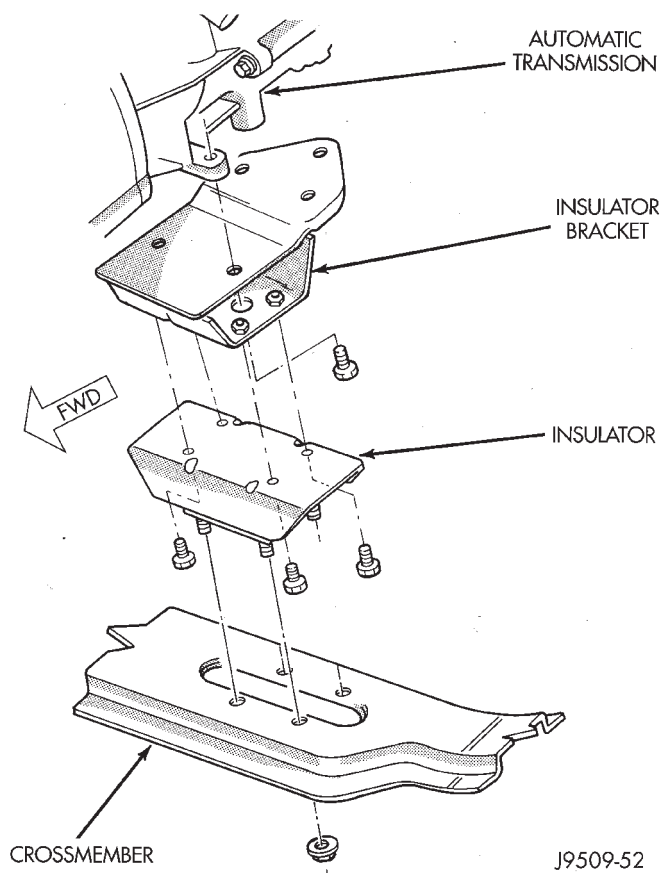

Fig. 21 Rear Insulator—4WD Vehicles
- (1) Disconnect the negative cable from the battery.
- (2) Raise the vehicle on a hoist.
- (3) Support the transmission with a transmission jack.
- (4) Remove stud nuts holding the insulator to the crossmember (Fig. 21).
- (5) Raise rear of transmission **SLIGHTLY**.
- (6) Remove bolts holding the insulator to the insulator bracket (Fig. 21). Remove the insulator.
(1) If the insulator bracket was removed, install the bracket to the transmission (Fig. 21). Tighten the bolts to 28 N·m (250 in. lbs.) torque.
(2) Install the bolts holding insulator to insulator bracket. Tighten the bolts to 28 N·m (250 in. lbs.) torque.